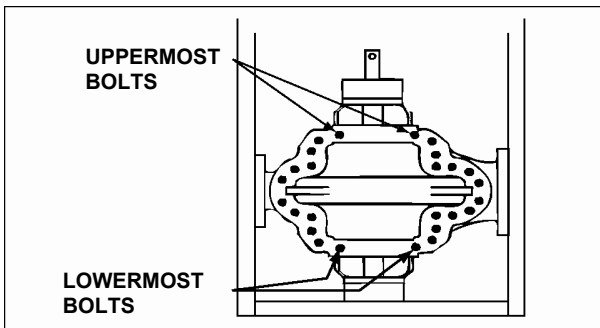

FIGURE 54 – PARTING LINE BOLTS
- Remove dowel pins and all parting line bolts except for two upper most and two lowest most (See Figure 54).